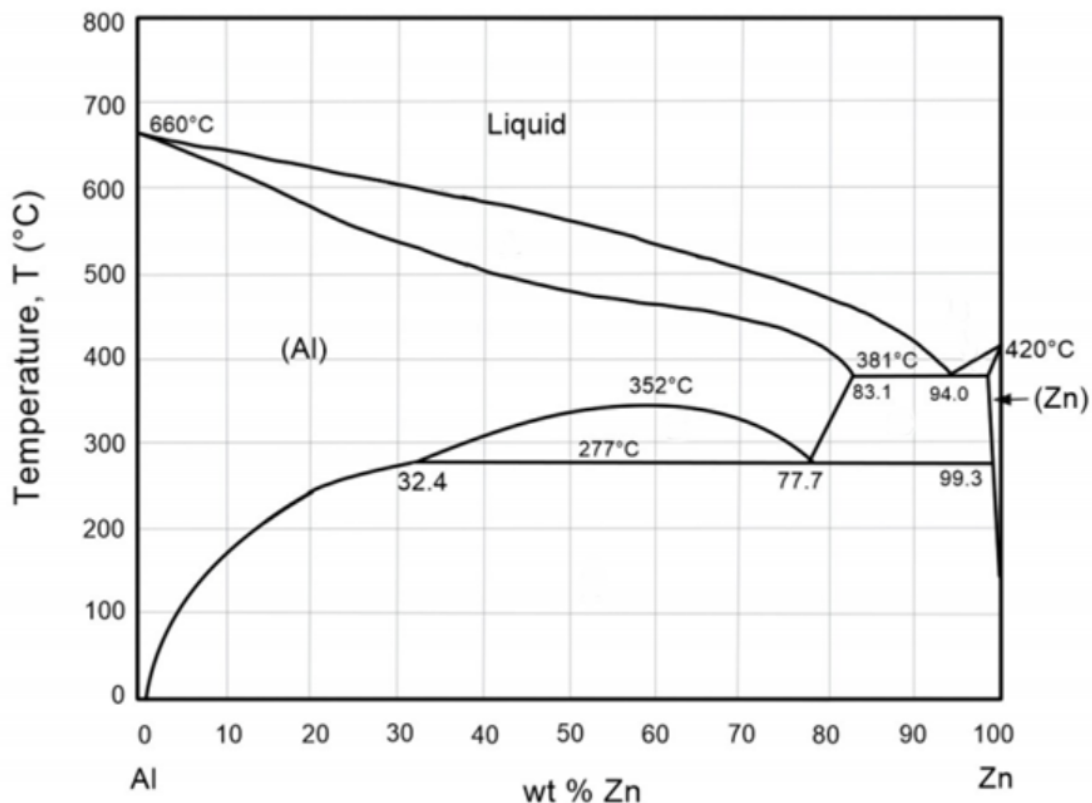

Figure 1
Supplementary page: one extra copy of Fig. 1 (Question 2)
- 2 (a) Figure 1 shows the phase diagram for the Al–Zn system.
(i) Using the equilibrium phase diagrams in Fig. 1 and that of Aluminium – Copper given in the Materials Data Book, suggest solution heat treatment temperatures for each alloy. [2]
Extra copy of Fig. 1 Al-Zn phase diagram for Question 2.